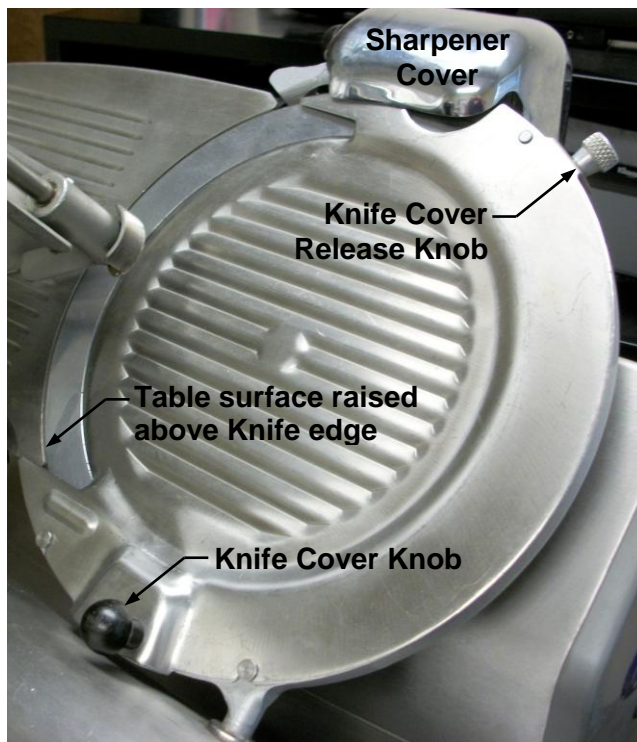

Figure 1
- A. Turn table adjustment Knob clockwise until Slicer Table edge is above edge of Knife (Figure 1).